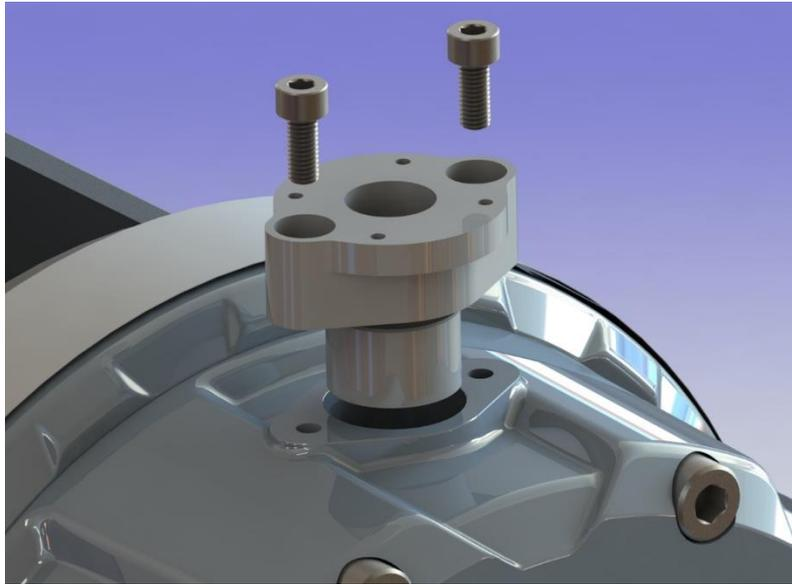

*Figure 2 - Clutch Mount Locations*
4. Remove cover screws from winch housing in desired location for air clutch installation, perpendicular mount (top in figure 2) or axial mount (shown with cover, figure 2).